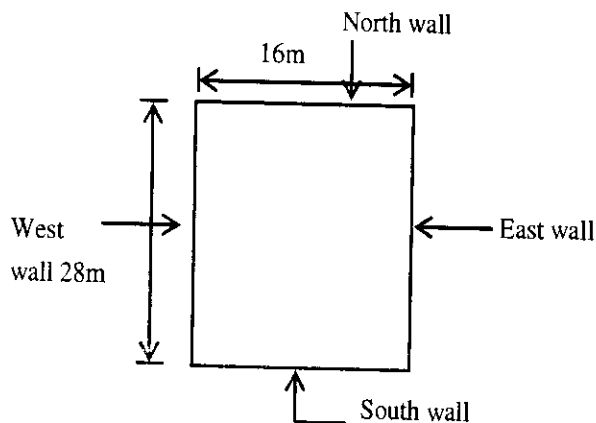

Fig.2
Q.3 (a) A building is built on a plot of 16m×28m. Determine the centre of mass, centre of rigidity and design torsional eccentricity in X and Y direction for the building shown in Fig.2. The building is single storeyed and covered with rigid diaphragm roof. Desired data for the building as follows: [12]